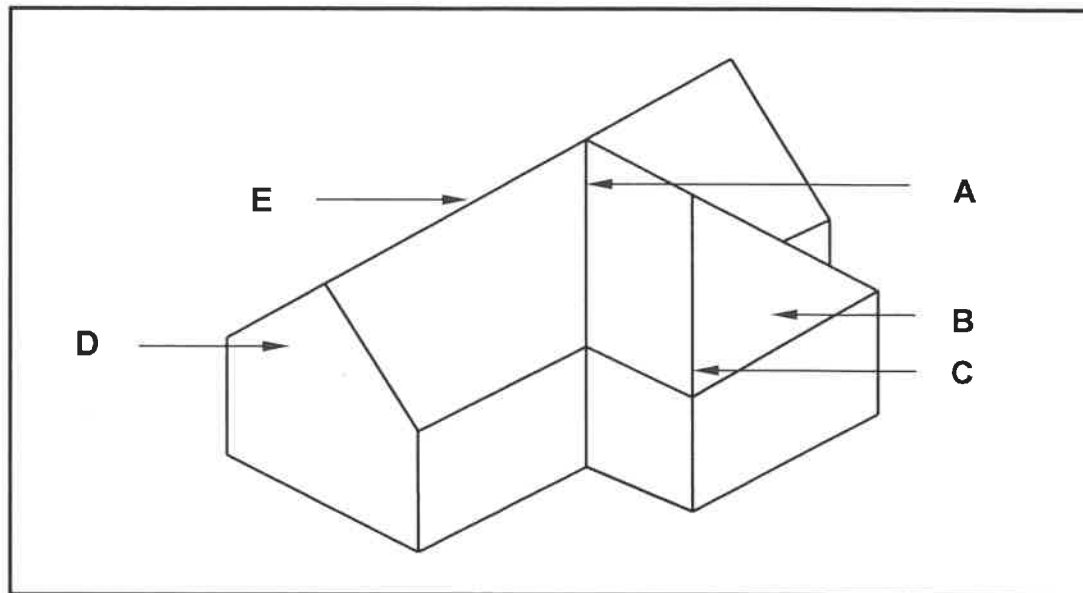

FIGURE 4.4
- 4.4 FIGURE 4.4 below shows a roof construction. (5)